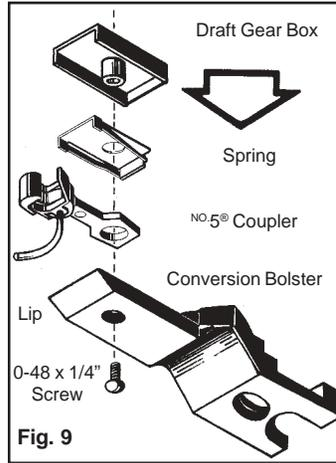
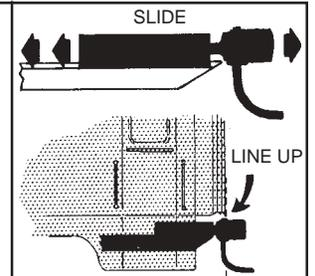
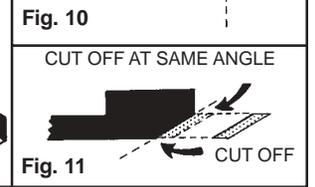

Fig. 9
Fig. 10
Fig. 11
3. After mounting the Kadee® conversion bolster on the C.V. truck, make sure it is centered sideways, then tighten the mounting screw. Next assemble the couplers and draft gear box, as shown in Fig. 9. **DON'T** attach the draft gear box to the conversion bolster arm with screw yet! It should snap-fit well enough to install the C.V. truck with conversion bolster to the car for determining the correct coupler & draft gear box positioning. Slide the draft gear box assembly forward or backward along the
bolster until the coupler head has enough sideways clearance that it doesn't hit the car when rounding corners. The approximate position is to line up the top of the trip pin with the outermost edge of the car, Fig. 10. When the correct position is found clamp the draft gear box to conversion bolster arm to keep it in position, then drill through the hole in the draft gear box just enough to mark the conversion bolster arm with a #56 drill bit (Kadee® #1059 Tap and Drill set). Remove the coupler and draft gear box then finish drilling through the conversion bolster arm with a #51 drill bit. Doing it this way will allow the 0-48 x 1/4" self tapping screw to pass through the hole in the conversion bolster arm and thread into the draft gear box. Try the screw once before assembling the coupler. Cut off any excess conversion bolster arm that extends out beyond the draft gear box, Fig. 11. Assemble the #5 coupler, centering spring and the draft gear box as shown in Fig. 9. Add a puff of Kadee® #231 Greas-em to the inside of the draft gear box for smoother operation.